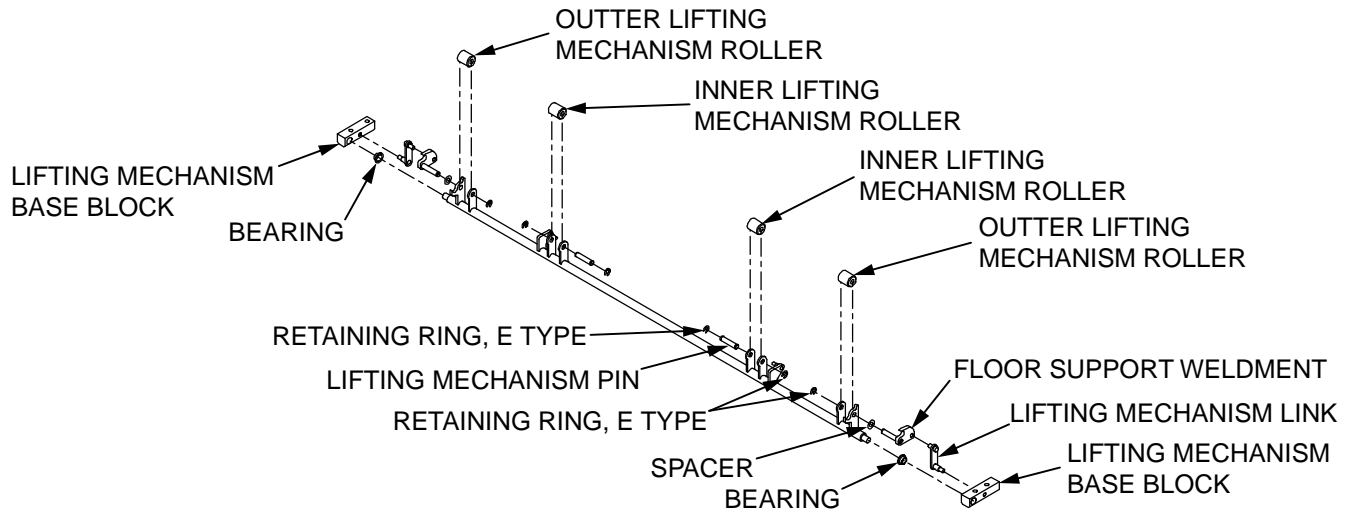

FIGURE 4-11: LIFTING MECHANISM ROLLER
- Refer to **Figure 4-11**. Remove and retain E type retaining ring from floor support weldment.